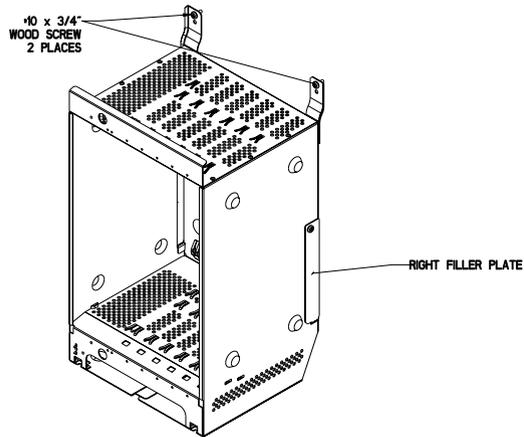

Figure 2-7. Securing the left and right bracket
6. Secure the left and right mounting brackets to the backboard with a minimum of one 10 X 3/4" long wood screw in each bracket as shown in Figure 2-7.
3. Remove the filler plate from the right side of the basic (first) carrier. See Figure 2-7 above.